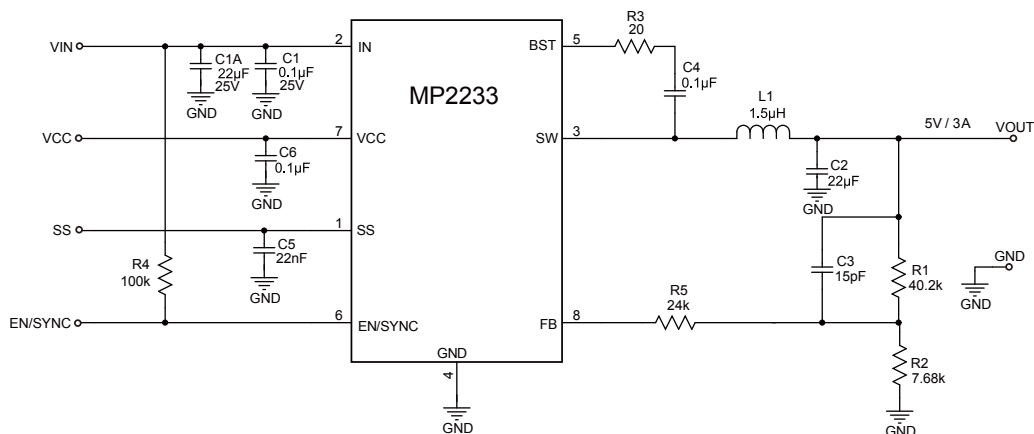

Figure 7: $V_{IN} = 12V$, 5V/3A Output
- 8) The recommended layout is based on the Figure 7 Typical Application circuit on the next page.